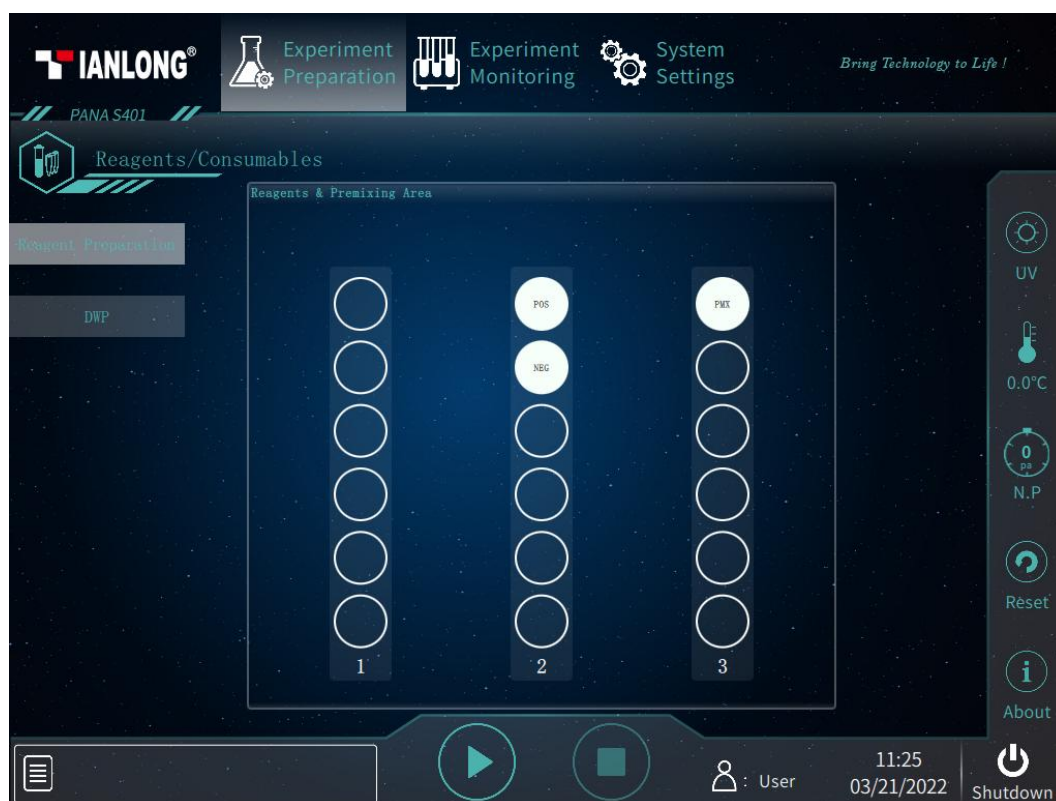

Figure 5-10. Experiment Preparation -Reagent/Consumables - Reagent Preparation
- **< Reagent Preparation >**: Handling System software can automatically analyze the requirement information of reagent and consumable according to the settings of **< Item >** and **< Samples >**. Please prepare the corresponding loading holder, reagent bottle, premix bottle and reagent group according to the prompts from the tab of reagent preparation, as shown in figure 5-10.